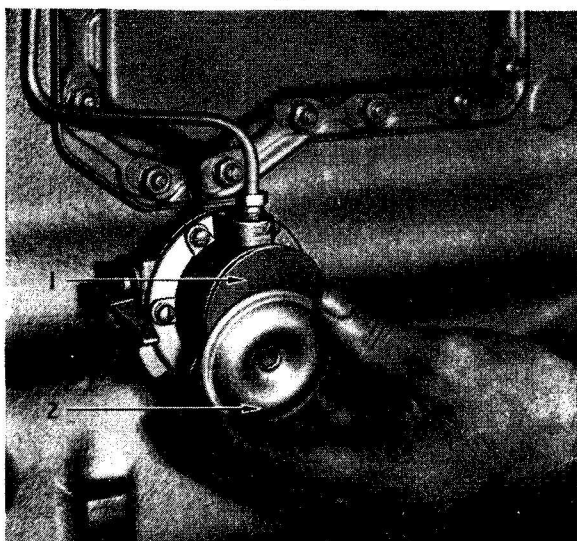

Fig. 4
1. Remove the fuel lift pump cover and pulsator diaphragm (Fig. 4).